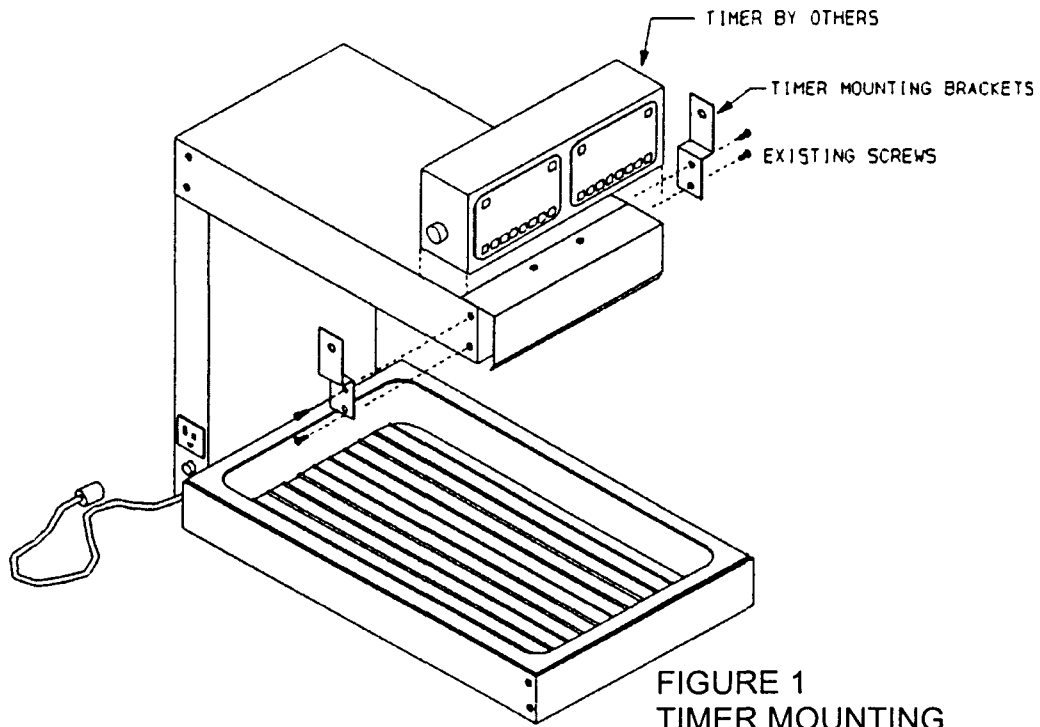

FIGURE 1
TIMER MOUNTING.....FIGURE 1, PAGE 2
3. If unit includes optional timer brackets, see Timer Mounting Instructions (Figure 1, page 2).